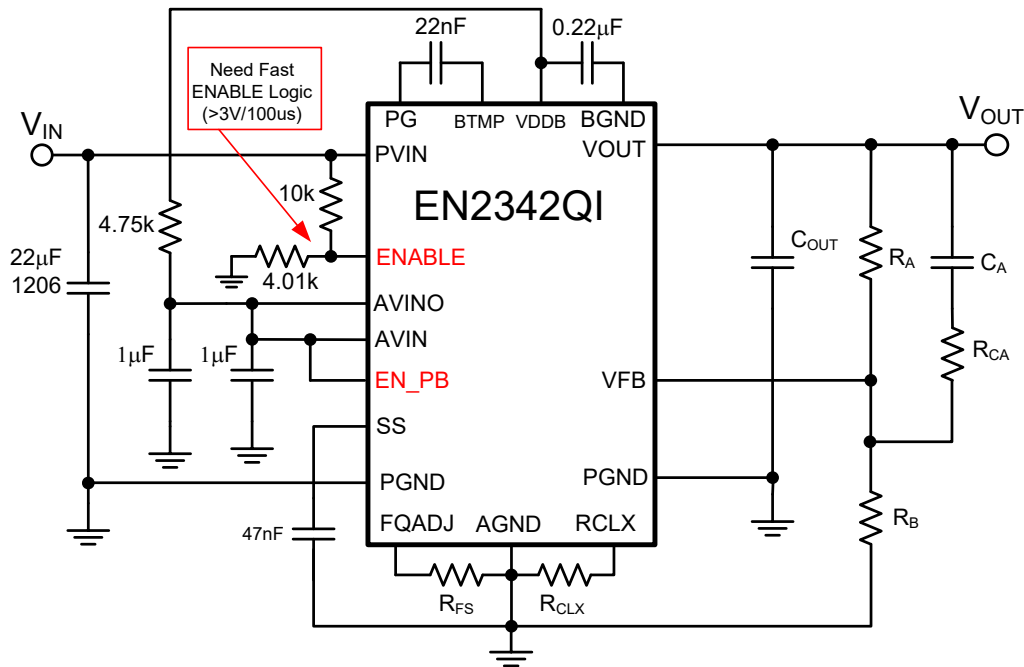

Figure 7. Pre-Bias Application Circuit
- A resistor divider must be connected from PVIN to ENABLE to Ground (10k on top, 4.02k on the bottom) to ensure proper shutdown. The resistor divider will disable the device when PVIN falls below approximately 4.5V. The resistor divider values may be adjusted accordingly to meet PVIN requirements. See Figure 7.
The output will start up from the Pre-Bias voltage into regulation monotonically if the instructions are followed; otherwise, the Pre-Bias Protection feature may not function properly. Starting up into a Pre-Bias voltage without the Pre-Bias Protection feature enabled can lead to device damage. When using the Pre-Bias feature, the device must be disabled using the ENABLE pin prior to PVIN falling out of regulation (<4.5V), otherwise damage may occur during shutdown. To disable the Pre-Bias feature pull the EN_PB pin directly to ground. Do not leave the EN_PB pin floating. See Typical Performance Characteristics for an example of Pre-Bias Protection. See Figure 7 for a typical schematic with Pre-Bias Protection enabled.